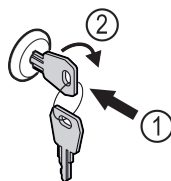

Fig. 175
- Insert the key. Fig. 175 (1)
- Turn the key clockwise by 90°. Fig. 175 (2)